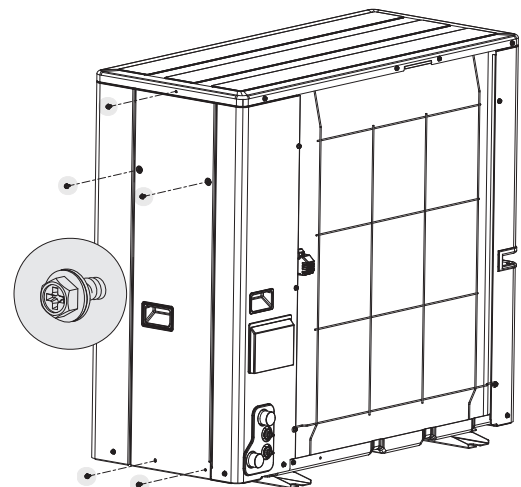

Figure 51. Heat Pump - Side Panel Removal
- Remove service panel, *Figure 51*, and inspect the following:
To access the refrigerant circuit pipework and the electrical components, the side panel can be taken off by removing the 5 screws shown in *Figure 51*.
4. Remove service access covers, refer to *Figure 51*.